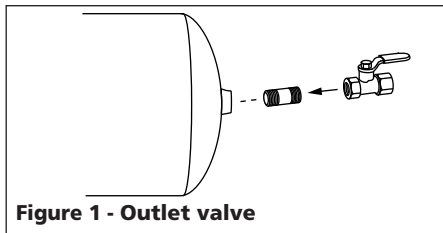

Figure 1 - Outlet valve
1. Close outlet valve (See Figure 1).